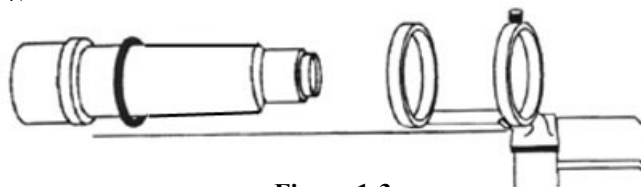

Figure 1-3
2. Slide the eyepiece end of the finderscope into the front ring of the bracket (the front ring is the one without the adjustment screws), then through the back ring. It may be necessary to push down the spring loaded pivot screw so that the finder will pass through the back ring (see figure 1-3)